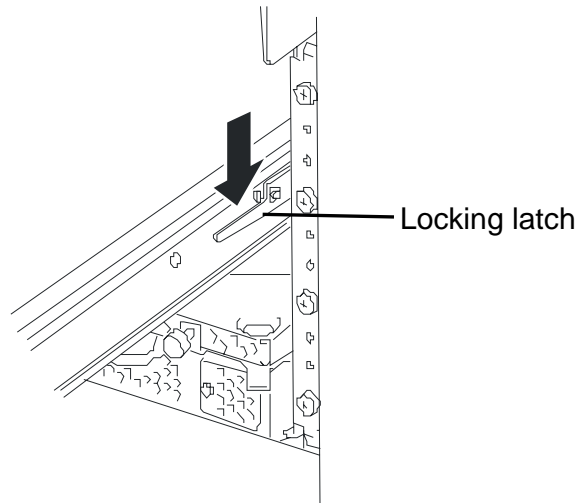

Figure 4-23. Module Locking Latch
6. Pull the release levers to their unlocked position. This disconnects the PCI module from its backplane. Then pull the PCI module out of the chassis until the locking latch engages. See Figure 4-23.